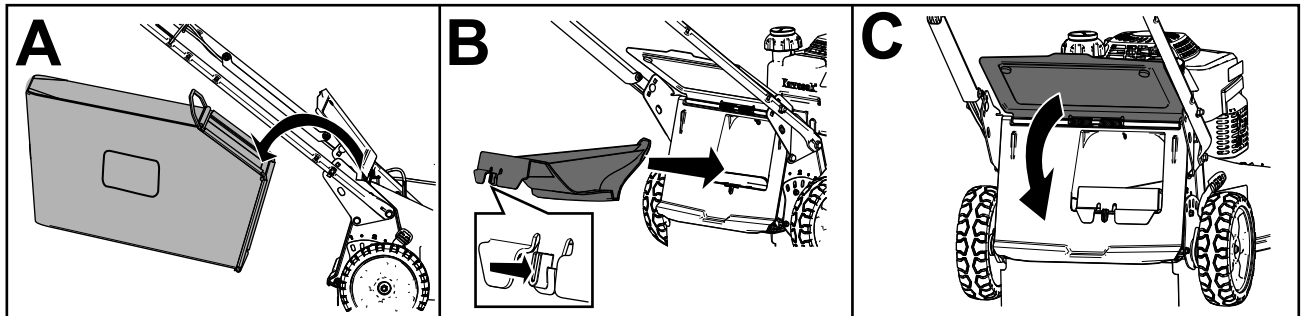

Figure 20
- If the grass bag is on the machine, remove it (A of Figure 20).
- If the rear-discharge plug is not installed, grip it by the handle, raise the rear deflector, and insert it into the rear-discharge chute until the latch locks into place (B of Figure 20).
3. Remove the bag rod on the grass bag from the notches at the base of the handle (A of Figure 20).
4. Install the discharge plug (B of Figure 20).
5. Lower the rear deflector (C of Figure 20).